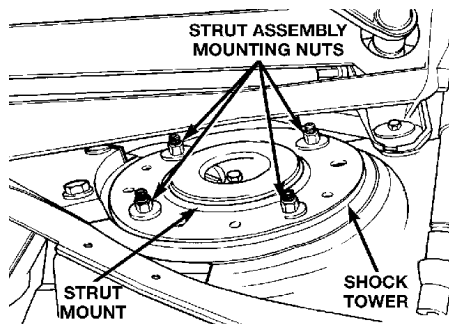

Fig. 8 Strut assembly upper mounting nut removal
- k. Remove strut assembly upper mount to strut tower mounting nut and washer assemblies, **Fig. 8**.